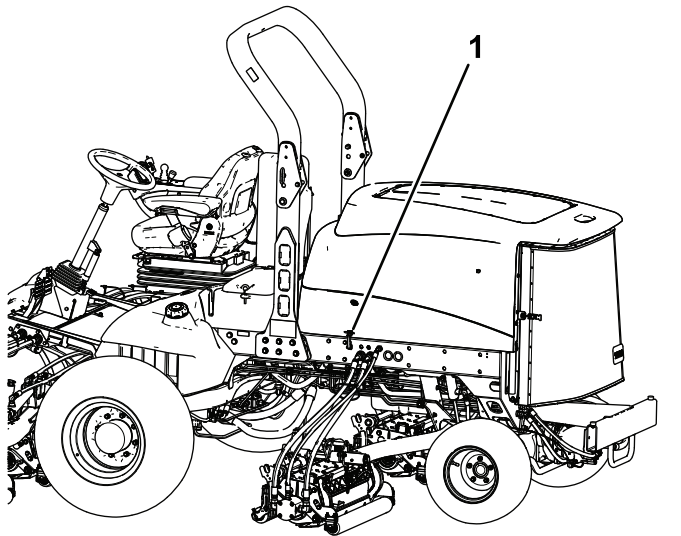

Figure 50
2. Unlock the hood latches and open the hood (Figure 50).